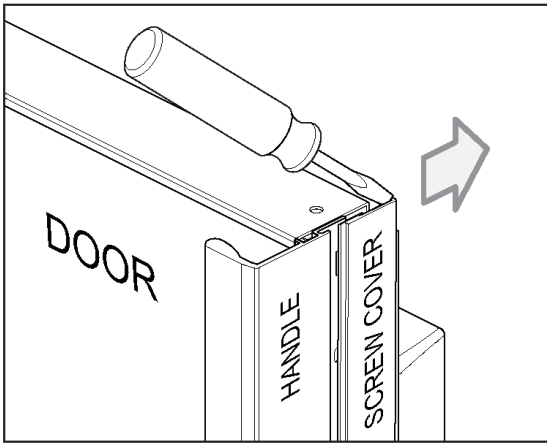

Figure 2-15A. Screw Cover Removal with Handle
1. At the top of the door, insert a flat blade screwdriver into the channel of the screw cover and push the cover away from the handle or handle-side trim, disengaging the screw cover from the clips (See Figures 2-15A and 2-15B).